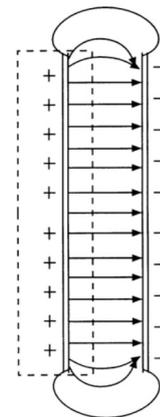

Fig. 1: Electric field lines between capacitor plates
where \mathbf{E} is the electric field intensity, Q the charge enclosed by the closed surface A , ϵ_0 is the permittivity of free space and s a closed path. If a voltage U_c is applied between two capacitor plates, an electric field \mathbf{E} (Fig. 1) will prevail between the plates, which is defined by:
Equations (4), (5) and (6) are valid only approximately, due to the assumption that field lines are parallel. With increasing distances between the capacitor plates, capacitance increases, which in turn systematically yields a too large electric constant from equation (6). This is why the value of dielectric constant should be determined for a small and constant distance between the plates (Fig. 1).
3. For charging the capacitor plates, connect the highly insulated capacitor plate connected to the positive terminal of the high voltage power supply through the 10 MΩ protective resistor. The other plate is connected to the middle terminal of the power supply and grounded (see Fig. 1).